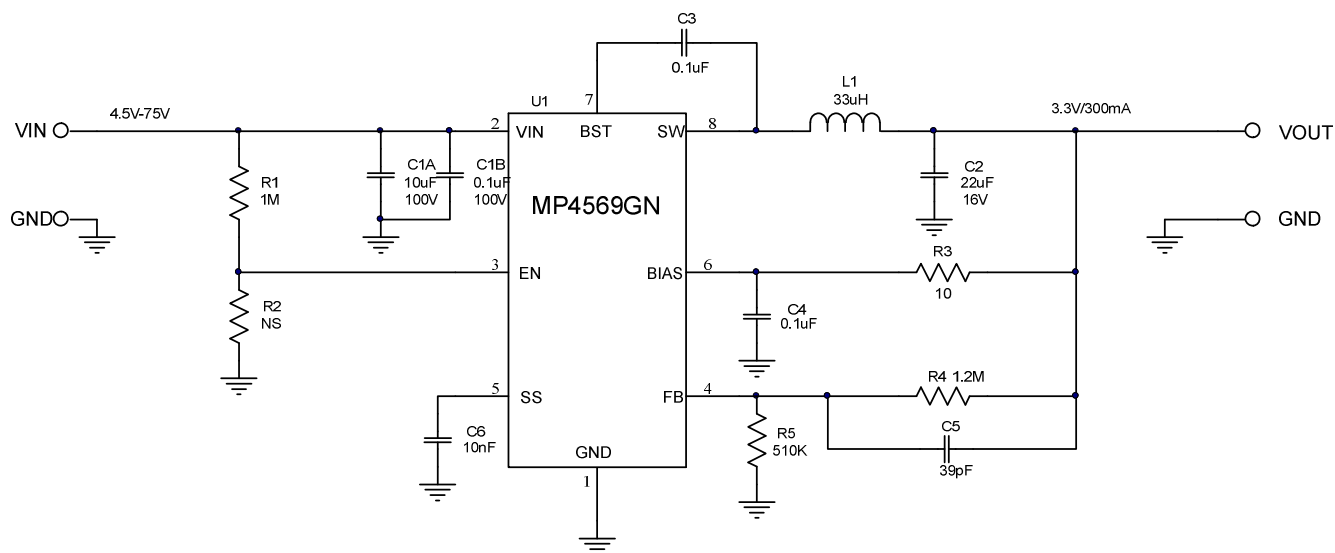

Figure 7 – 3.3V Output Typical Application Circuit of SOIC-8 EP Package
- 8) Take Figure 7 as schematic